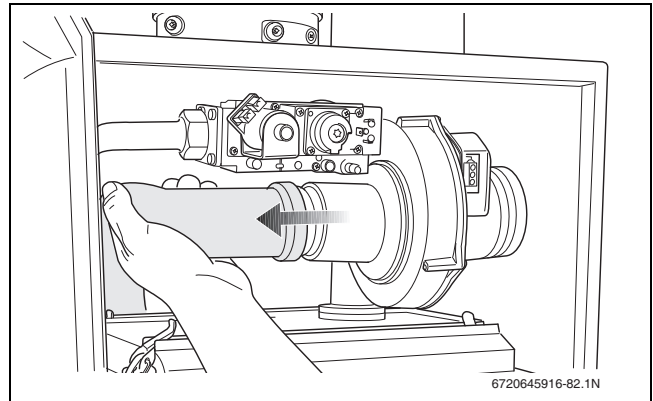

Fig. 85 Pulling the air suction tube from the fan
- Pull the air suction tube from the fan (→ fig. 85).